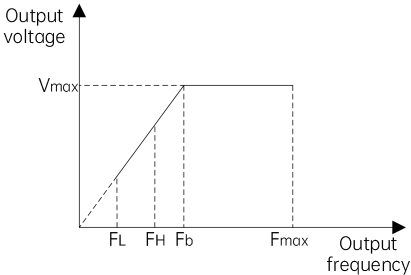

Fig. 7-6 Frequency limit parameter definition
The maximum output frequency is the highest frequency allowed by the drive, such as Fmax in Fig. 7-6;
The upper limit frequency is the highest frequency allowed in operation set by the user, such as FH in Fig. 7-6;
The lower limit frequency is the lowest frequency allowed in operation set by the user, such as FL in Fig. 7-6;
Fb in Fig. 7-6 is the basic operating frequency, defined as the minimum corresponding output frequency when the drive outputs the highest voltage in the V/F mode.
- ① The maximum output frequency, upper limit frequency and lower limit frequency should be carefully set according to the actual nameplate parameters of the controlled motor and the needs of the operating conditions.
- ② The limit range of the upper and lower frequency has no effect on the JOG operation, but it will affect the auto-tuning of the motor (parameter identification).
- ③ In addition to the upper limit frequency and lower limit frequency, the output frequency of the drive during operation is also limited by the startup frequency, start frequency of DC braking at stop, jump frequency and other parameters.
- ④ Fig. 7-6 shows the relationship between the maximum output frequency, upper limit frequency, and lower limit frequency. Note the value ranges during setting.
- ⑤ The upper and lower frequency limits are used to limit the actual output frequency to the motor. If the frequency reference is higher than the upper limit frequency, the device will run at the upper limit frequency; if the frequency reference is lower than the lower limit frequency, the device will run at the lower limit frequency; and if the frequency reference is lower than the startup frequency, the device will run at zero frequency.